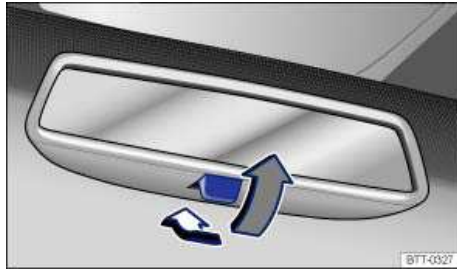

Fig. 82 Manually adjustable inside mirror.
- To adjust to non-glare visibility, move the lever so that it points backward ⇒ fig. 82.